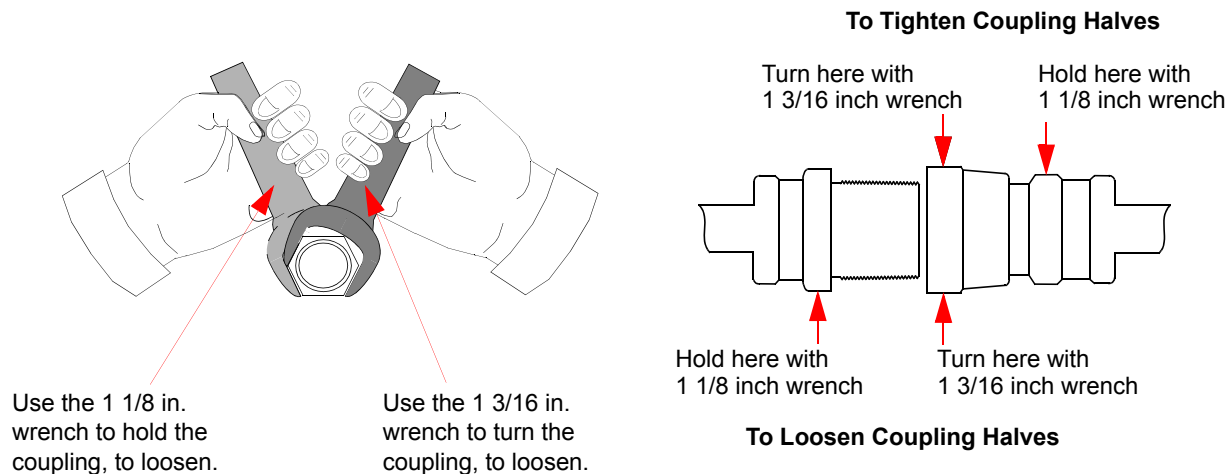

Figure 4-4: Connecting/Disconnecting Helium Flex Line Couplings
|  | <p>CAUTION</p> <p>Equipment Damage</p> <p>To avoid damaging o-rings and creating a helium leak, follow the procedure in this section, including Figure 4-4 on page 4-12.</p> |
3. Connect one end of the Helium Supply Line to the Helium Supply connector on the rear of the 8600 Compressor, and connect the other end to the Gas Supply connector on the 20HP Cryopump. Tighten the connection by using a 1 1/8-inch wrench to hold the coupling stationary and a 1 3/16-inch wrench to tighten the self-sealing coupling connector as shown in Figure 4-4.
3. Disconnect the two self-sealing coupling connectors quickly to minimize helium leakage by using a 1 1/8-inch wrench to hold the coupling stationary, and use a 1 3/16-inch wrench to loosen the self-sealing coupling connector as shown in Figure 4-4 on page 4-12.